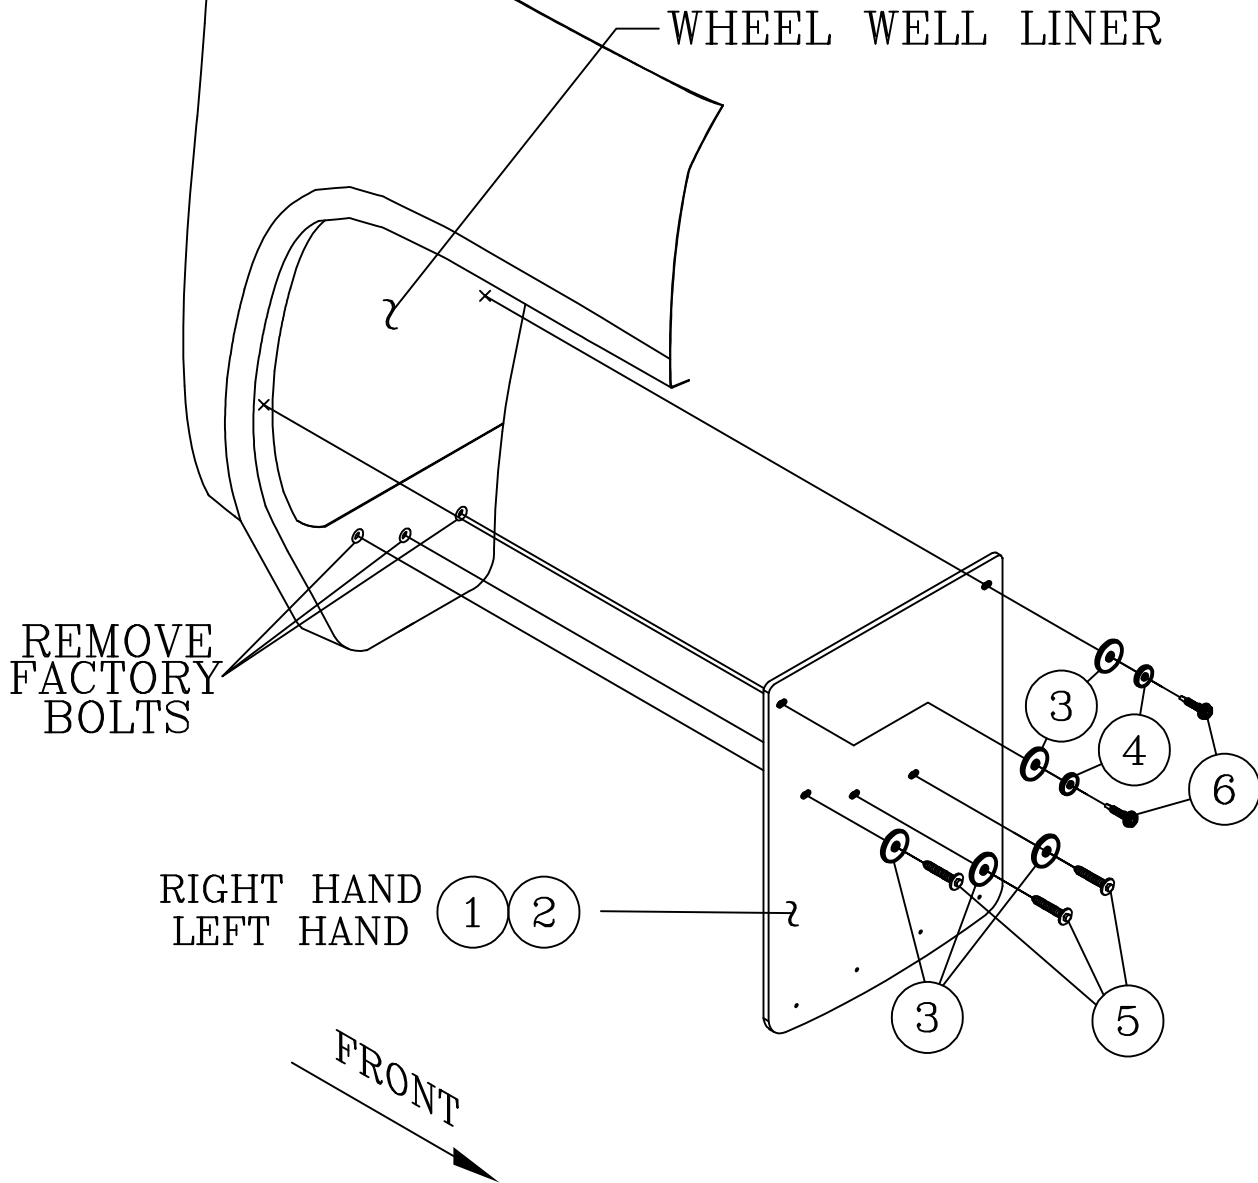

fig.1
5. WITH THE MUD GUARD IN PLACE INSTALL THE THREE SELF DRILLING SCREWS (ITEM#6) AND WASHERS (ITEM #3 & #4) IN THE REMAING THREE HOLES IN THE MUD GUARD (SHOWN IN FIG. 1)